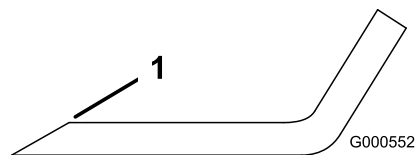

Figure 88
1. Use a file to sharpen the cutting edge at both ends of the blade (Figure 88).
Note: If the blade is not balanced, file some metal off the end of the sail area only (Figure 88).